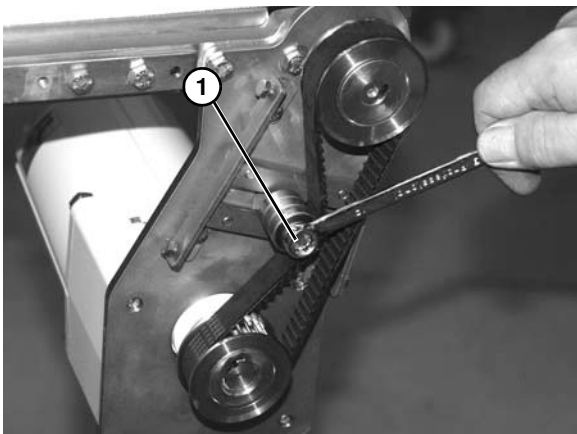

Figure 69
2. Loosen tensioner (Figure 69, item 1).